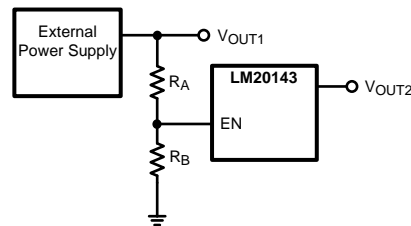

Figure 31. Sequencing LM20143 with Precision Enable
The LM20143 has a built-in under-voltage lockout protection circuit that keeps the device from switching until the input voltage reaches 2.7 V (typical). The UVLO threshold has 45 mV of hysteresis that keeps the device from responding to power-on glitches during start up. If desired the turn-on point of the supply can be changed by using the precision enable pin and a resistor divider network connected to V_{IN} as shown in Figure 31. in the design guide.
The precision enable (EN) and power good (PGOOD) pins of the LM20143 can be used to address many sequencing requirements. The turn-on of the LM20143 can be controlled with the precision enable pin by using two external resistors as shown in Figure 31.